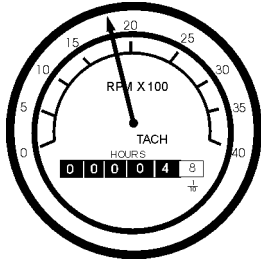

Figure 36. Engine Tachometer
16. The tachometer (Figure 36) will indicate the speed of the engine when the generator is operating. Under normal operating conditions this speed should be approximately 1800 RPM's.